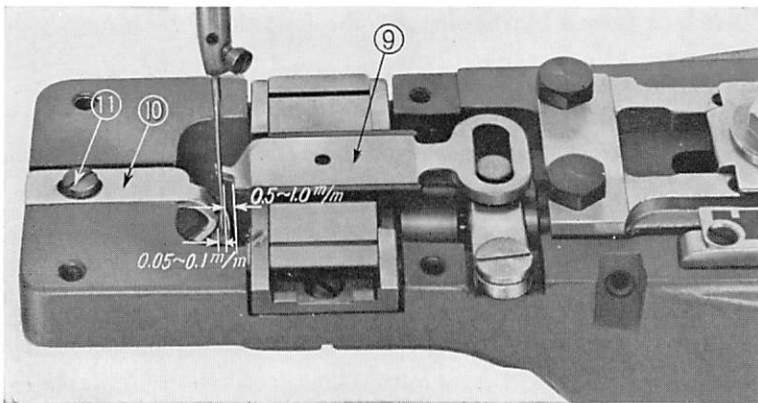

Fig. 16
At the lowest position of the needle bar, loosen the screw ⑥ of the cam and looper sleeve ② by locking from under the bed, slide the cam and looper sleeve toward the front and create a clearance with the loop positioning finger cam (rear). To prevent the machine from moving during the adjustment, lightly tighten one side of the cam and looper sleeve screw ⑥. Loosen the loop positioning finger cam (rear) screw ⑤, rotate the loop positioning finger cam and at the farthest advanced position of the loop positioning finger (Fig. 16 ⑨), make a clearance of 0.5~1.0 mm between the needle and the loop positioning finger edge as shown in Fig. 16.
Make sure that the height of the loop positioning finger (Fig. 16 ⑨) at the position where it begins to move from right to left (facing the machine) is within 55~58 mm (2-5/64"~2-1/4") from the upper point of the needle bar upper bushing to the upper point of the needle bar. If this height is less than this, it might invite needle breakage.
15. POSITION OF THE NEEDLE GUARD (Fig. 16)